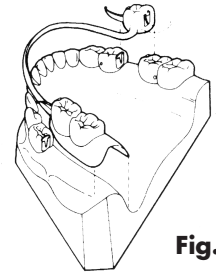

Fig. 8
19. Process the partial denture over the completed castings in a routine manner (Fig 8).